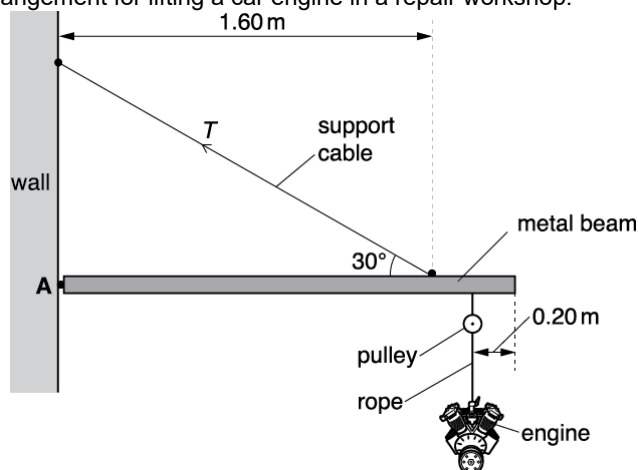

Fig. 18.2 (not to scale)
55. Fig. 18.2 shows an arrangement for lifting a car engine in a repair workshop.